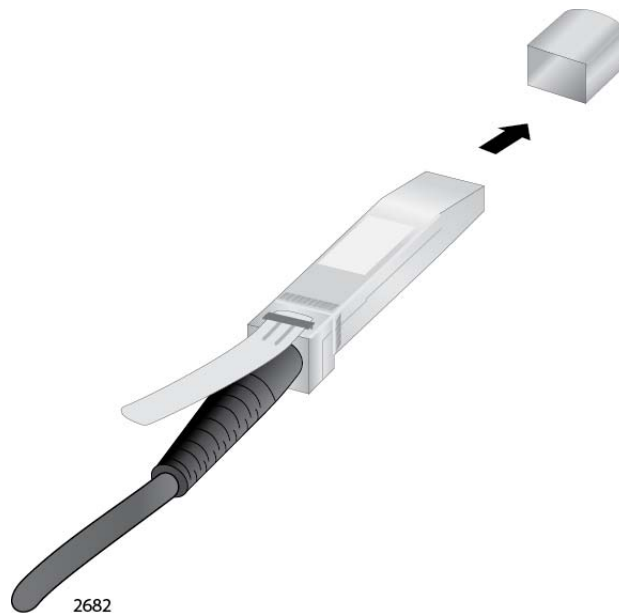

Figure 72. Removing the Dust Cover from the Transceiver
3. Remove the dust cap from one end of the transceiver, as shown in Figure 72.